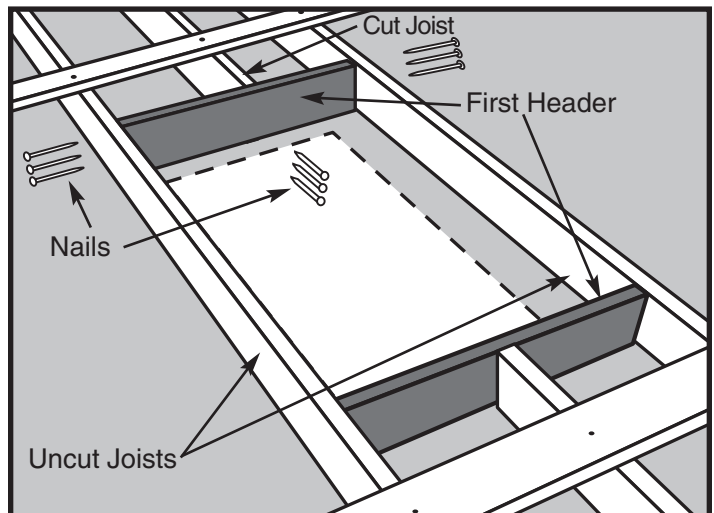

Figure 15
- STEP 3.** Place one of these headers against the end of the cut joist(s) (See Figure 15). It must fit snugly between the uncut joists. Hammer it into position if necessary; if it is more than 1.59 mm too long, trim it. If it is more than 1.59 mm too short, cut another piece.
- STEP 4.** Square the header to the uncut joist and nail the header to the end of the cut joist(s) with (3) 16d nails (See Figure 15).
- STEP 5.** Check header for squareness then drive (3) 16d nails through each joist into each end of the header (See Figure 15).